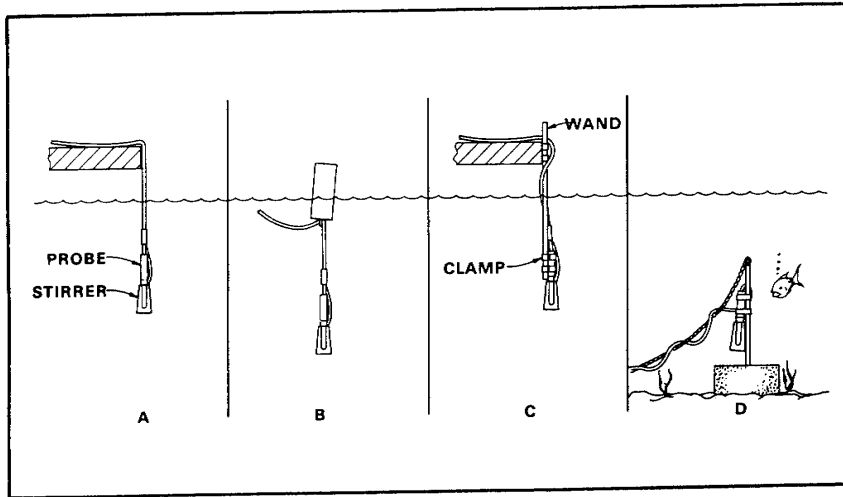

Figure 10 - Using the probe with the submersible stirrer
When the flowrate of the water is less than 1 ft per second, the probe should be used with a YSI 5695 Submersible Stirrer. (See Figure 10.) The probe/stirrer can be supported by its cable from the pier (A), boom or float (B), or attached to a wand or pipe (C). A simple probe stand can be used to hold the probe and stirrer above a pool bottom (D).